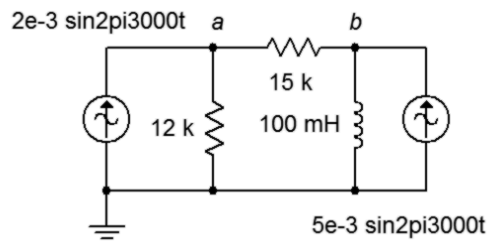

Figure 5.7
13. In the circuit of Figure 5.7, use Superposition to find v_{ab} .
14. In the circuit of Figure 5.7, use Superposition to find the current through the 15 k Ω resistor.